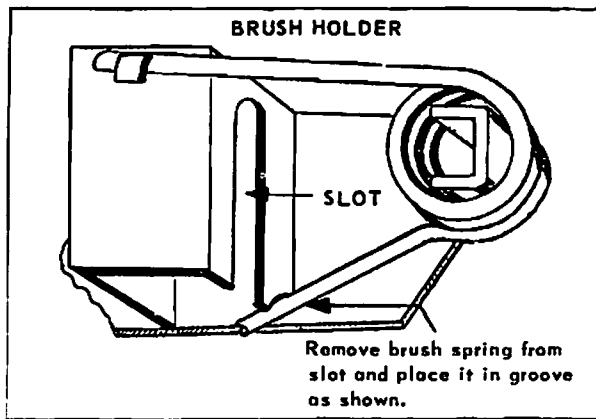

Figure 3-23
3. Position brush springs in disassembly position as shown in Figure 3-23.